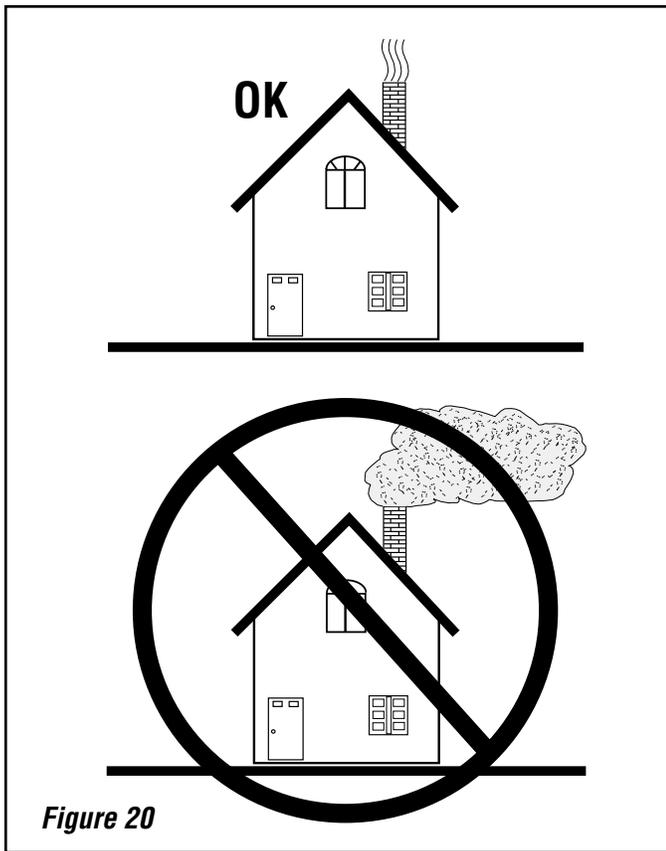

Figure 20
7. For best results, use smaller pieces of wood to get the appliance temperature very high before loading larger wood for sustained burns. If necessary, crack the door to allow ignition of the fuel charge. Now you can add larger pieces of wood and after several minutes of high burn, set the left control for the desired heat output. Check the exhaust in about 15 to 20 minutes (*see Figure 20*). Large amounts of smoke indicate an improper burn setting (either too high or too low). Adjust and recheck in 5 to 10 minutes.
6. Go outside and check your chimney. More than a very small amount of smoke indicates wasted heat, creosote build up and pollution (*see Figure 20*).